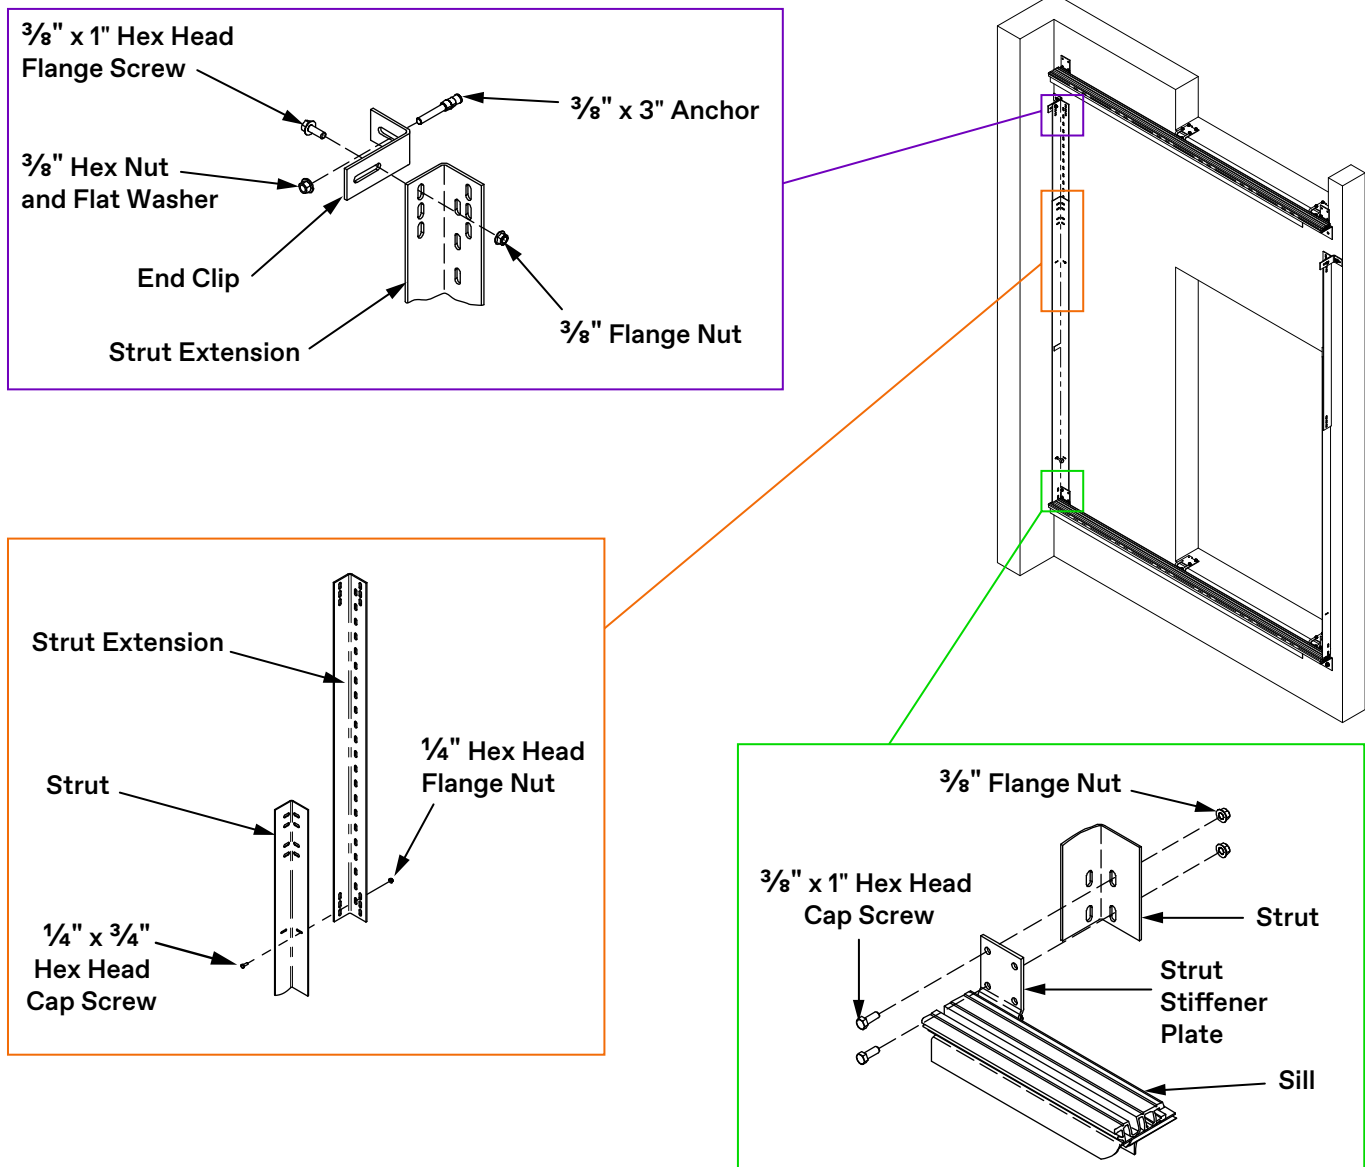

Figure 21 - Install Struts and Strut Extensions
1. Install a strut on strut stiffener plate at each end of sill; do not tighten the hardware. The end with the vertical slots attaches to the strut stiffener plate. See Figure 21.